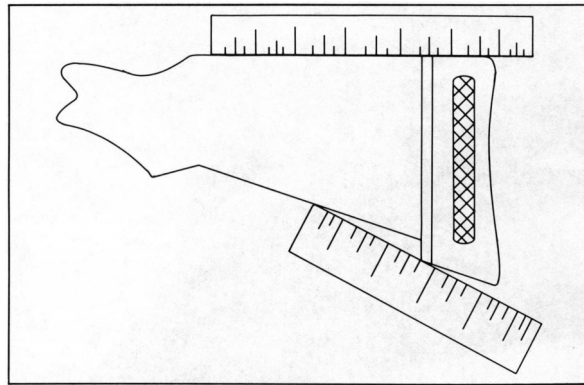

Fig. 6-20. The straight edge or square ensures exact match of pad to stock (top).
14. Place the stock near the sanding wheel for convenience and start sanding the pad top and bottom. Manually position the pad on the stock and lay your rule along the stock to check the progress in following the line of the stock into the pad (Fig. 6-20). Do not try to sand the pad to the scribe line at this point.